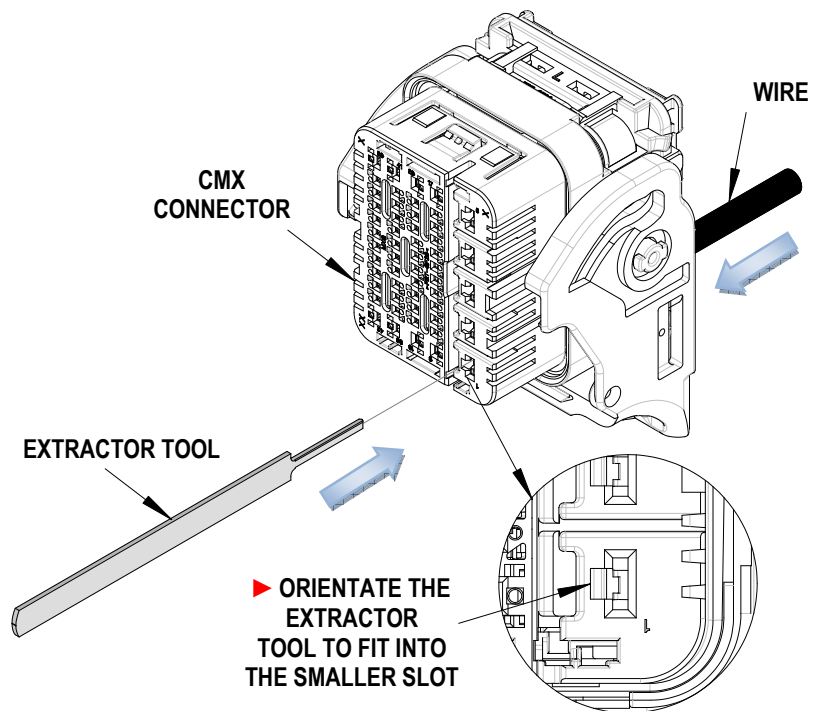

Figure 1
1. Position the blade of the extraction tool into the small slot in the front face of the housing as shown in Figure 1. Use the identifying markings on both the front and back of the connector to locate the opening used to extract the crimped wire.